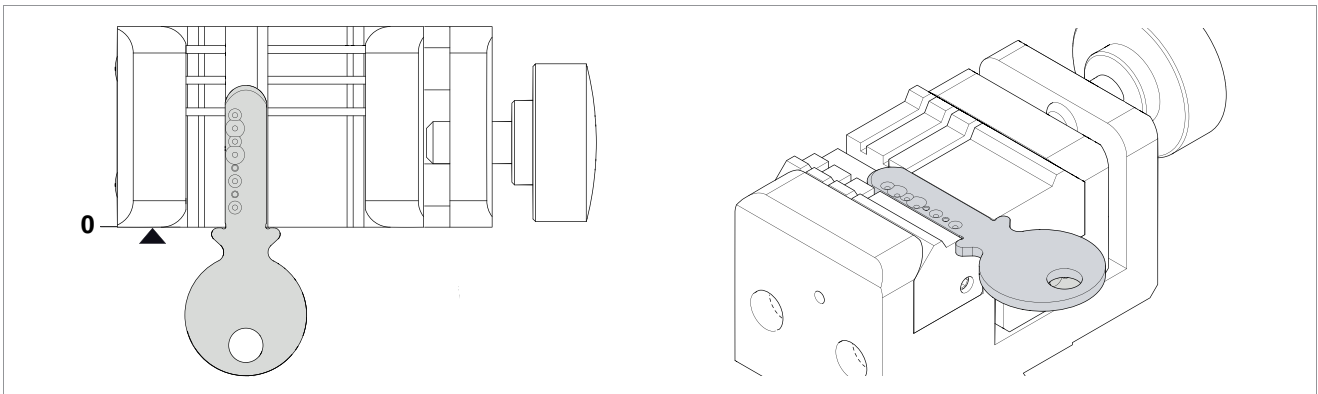
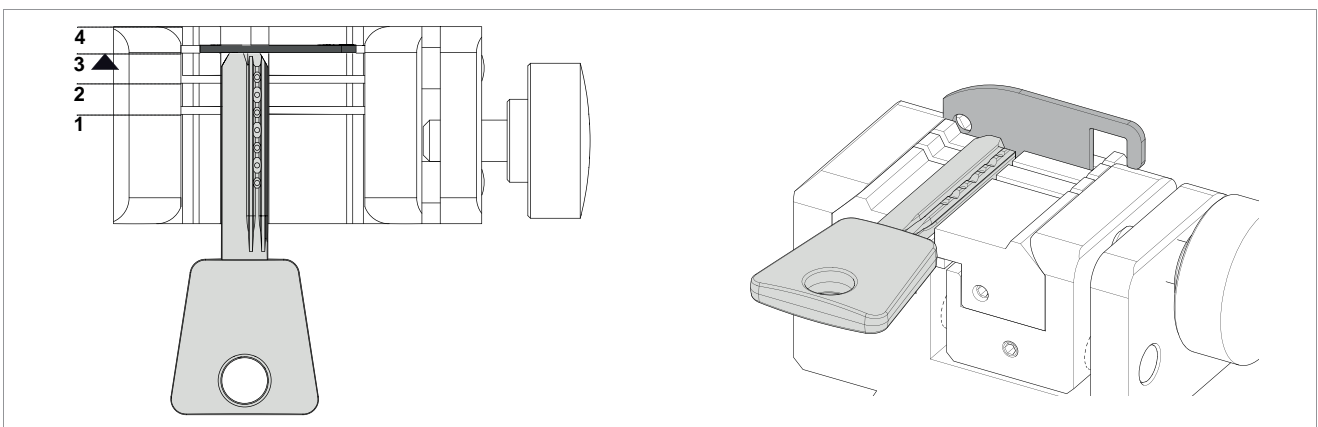

Fig. 46 - SHOULDER STOP
Fig. 47 - TIP STOP
- clamp stop (Fig. 46 and Fig. 47)
For shoulder stop keys, place the shoulder of the key against the jaws (stop "0") (Fig. 46) and the others (tip stop) must be placed against one of the grooves (1-2-3-4), as indicated in the Silca tablet program. For this operation use the bar provided (Fig. 47).